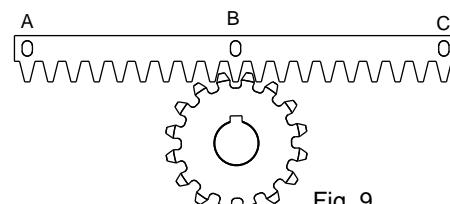
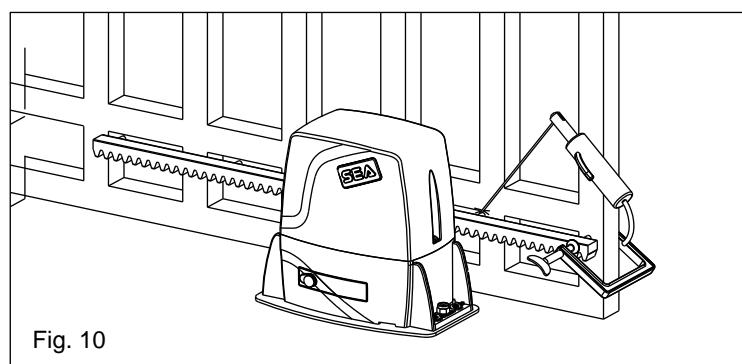

Fig. 9
Fig. 10
6.3. Lean the gear rack element on the toothed pinion of the motor so that it results parallel to the ground slideway of the gate, place it as shown in Fig. 9 and electrically weld the central pawl B to the gate structure (Fig. 10).